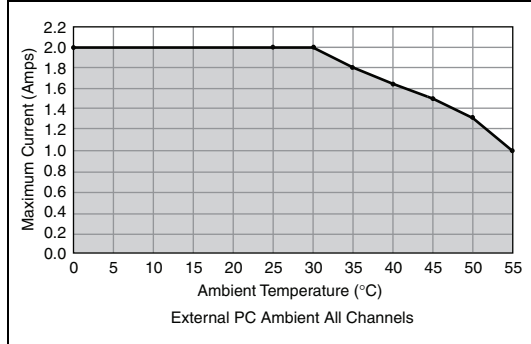

Figure 1. Maximum Current for Ambient Temperatures ≤55 °C
- PCI-6521 (per channel) Refer to Figure 1